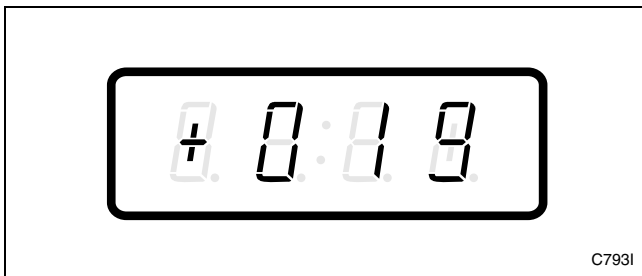

Figure 80
3. Press the DELICATES (+) or the COLD (-) keypad to scroll through the programmable options until “+019” appears in the VFD. Refer to *Figure 80*.